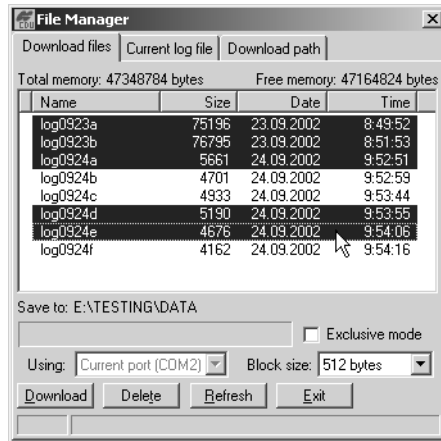

Figure 4-5. Download Files
7. Select the file(s) to download (Figure 4-5 on page 4-11).